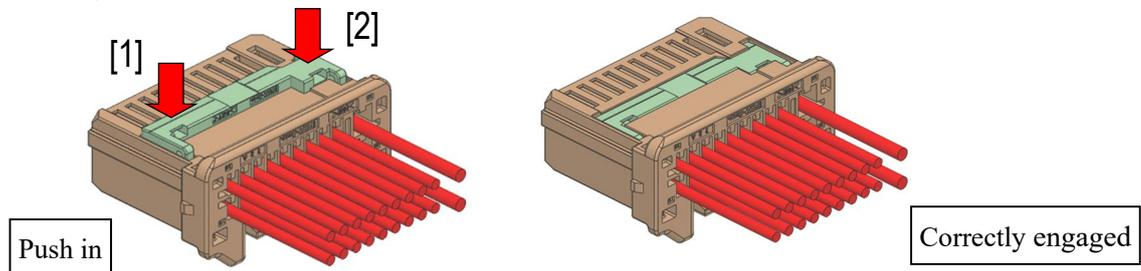

Fig 28.Installation of Retainer
- ② Push the retainer perpendicularly to the female housing in order of [1]⇒[2] in Fig.28 after terminal insertion is complete.